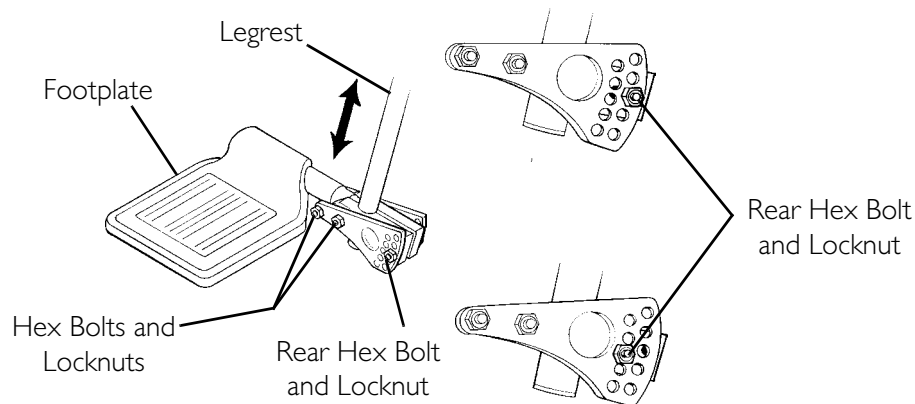

FIGURE 6.28 Adjusting Genius Legrests - Footplate Height/Footplate Angle
NOTE: For this procedure, refer to FIGURE 6.28.
1. Note the angle of the footplate in relation to the legrest as shown in FIGURE 6.28.